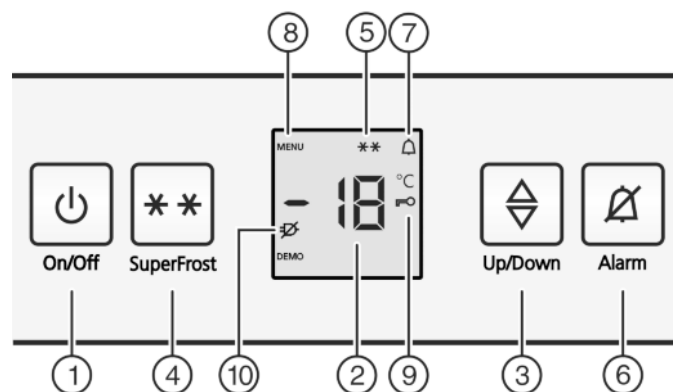

Fig. 2
- Press the On/Off button Fig. 2 (1).
- ▶ Activate setting mode: press the SuperFrost button *Fig. 2 (4)* for approx. 5 seconds.
- ▷ The Menu symbol *Fig. 2 (8)* is shown on the display.
- ▶ Briefly confirm with the SuperFrost button, *Fig. 2 (4)*.
- ▷ The child lock symbol *Fig. 2 (9)*, lights up on the display.
- ▶ Briefly press the On/Off button *Fig. 2 (1)*.
- ▷ The child lock symbol *Fig. 2 (9)* goes out.
- ▶ Press alarm button *Fig. 2 (6)*.
The temperature display and the alarm symbol *Fig. 2 (7)* flash at the same time.
The audible alarm is automatically silenced, the alarm symbol *Fig. 2 (7)* goes out and the temperature display stops flashing when the temperature is sufficiently cold again.